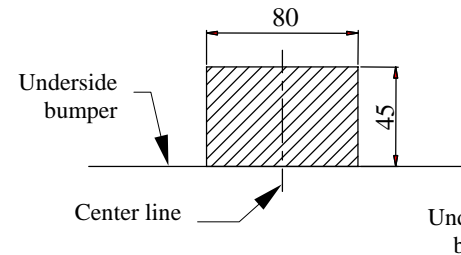

Fig. 2 Bumper cut out
3. In chassis members are small elements which can make some problems when You try to put side brackets (pos. 6 and 7). Bend him.
4. Slip side brackets (pos. 6 and 7) and fix it to chassis members through original holes pos. A and fish-plates pos. 5 using bolts M12x40mm (pos. 8) – loosely.
5. Between mounted brackets put body of the towbar (pos. 1) and fix it by bolts M12x40mm (pos. 8). Tighten all bolts.
7. In central part of towbar fix bumper handles (pos. 4) using bolts M8x25mm (pos. 10) and below the car through holes B using bolts M10x25mm (pos. 9).
8. Assemble the rear bumper after cut out fragment according to figure 2 or 3. Next fix bumper to the towbar using two bolts M5x20mm (pos. 11).
10. Fix body of the automat and place tow-ball according to supplied instruction. Note! Remember to place socket plate (pos. 3) as shown on the drawing 1.